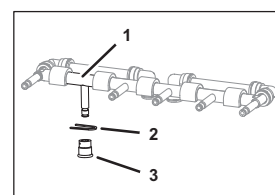

Fig. 21
- Turn the connection (Fig. 21/1) of the soda dispenser so that it faces down.
- Close the connection (Fig. 21/1) of the soda dispenser using the cap (Fig. 21/3) and the U-clip (Fig. 21/2).